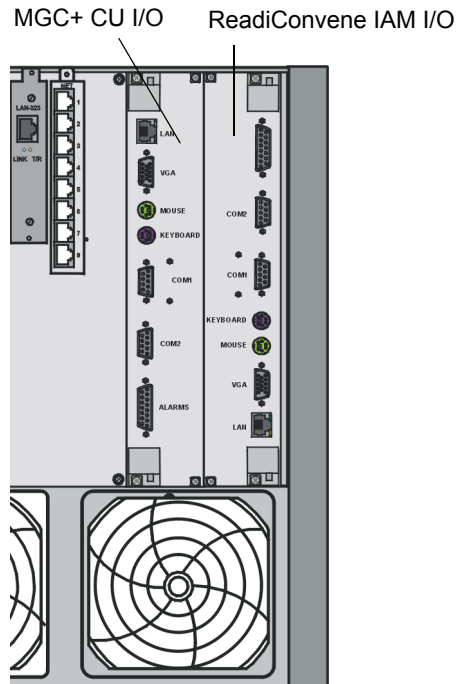

Figure 1-2 MGC+50/100 Partial Rear View
Figure 1-2 shows part of the rear panel of the MGC+50/100 with the ReadiConvene IAM blade and the MGC+ Control Unit (CU) installed. I/O cards are inserted via the rear panel. The I/O card for the ReadiConvene IAM is located on the right side of the MGC+50/100 rear panel. In addition, the rear panels house the main power switch, AC inlet, fans, fuse, and additional communications ports.